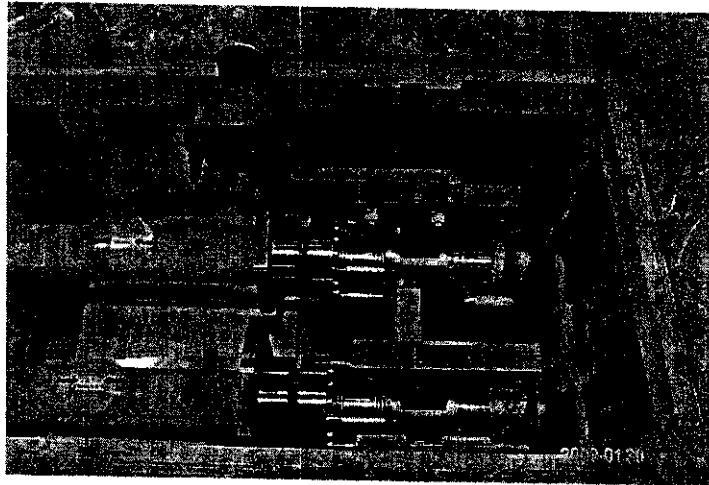

Figure 1.1 The lifting/insertion tool bolted to a power lead in preparation for removing it from the shipping container.
- 1.1 Attach the lifting/insertion tool to the lead flag as shown in Figure 1.1 and remove the lead from the shipping container.